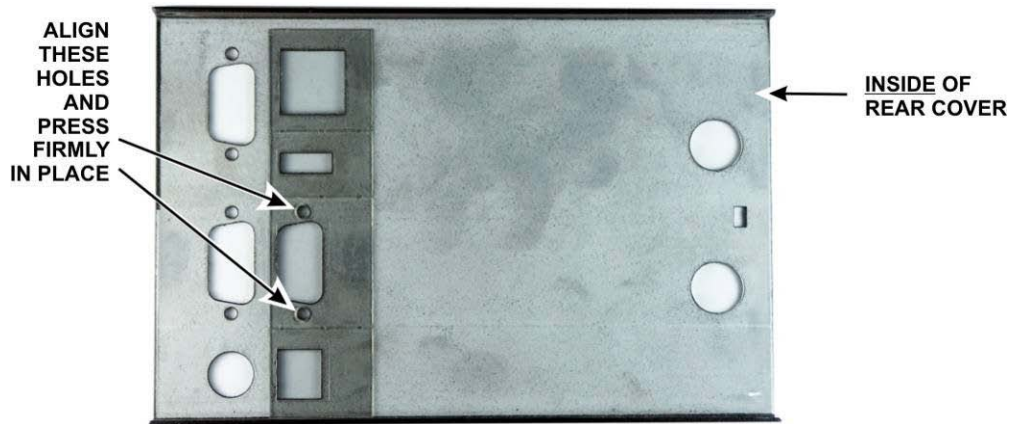

Figure 11. Installing the Hole Cover.
- Locate the hole cover. It is a transparent strip on a paper backing with adhesive that fits over the Sensor, Keyboard, Ext Display and Aux data holes on the back cover. Do not break the strip on the perforations. They are provided to allow you to easily remove individual sections as needed later. Remove the backing paper and place the strip on the inside surface of the back cover, aligned so the two round holes are over the corresponding holes above and below the EXT. DISPLAY connector opening in the cover and press it in place (see Figure 11). There is no adhesive over the areas that cover the openings so dust and dirt will not adhere to it.